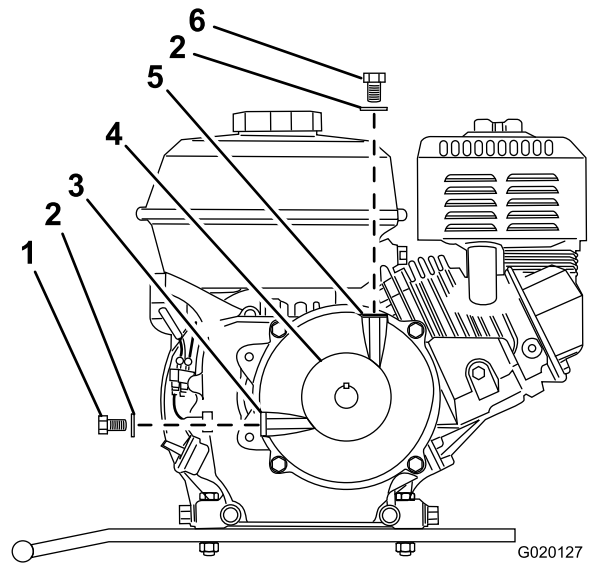

Figure 65
3. Remove the filler bolt and washer from the filler port on the top of the reduction case (Figure 65).
4. Remove the oil-level-check bolt and washer from the oil-level port in the side of the reduction case (Figure 65).
9. Install the oil-level-check bolt and washer to the oil-level port of the reduction case, and tighten the oil-level-check bolt (Figure 65).
10. Install the filler bolt and washer to the filler port of the reduction case, and tighten the filler bolt (Figure 65).